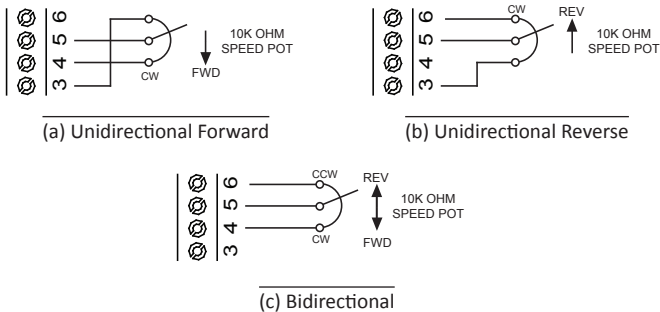

Figure 4. Speed Adjust Potentiometer Connections
For unidirectional operation in the forward direction, connect the speed adjust potentiometer as shown in Figure 4(a).
For unidirectional operation in the reverse direction, connect the speed adjust potentiometer as shown in Figure 4(b).
For bidirectional operation, connect the speed adjust potentiometer as shown in Figure 4(c). The motor does not operate when the potentiometer is in the center position. Turning the potentiometer clockwise (CW) from the center position causes the motor to rotate in the forward direction, while turning the potentiometer counterclockwise (CCW) causes rotation in the reverse direction.